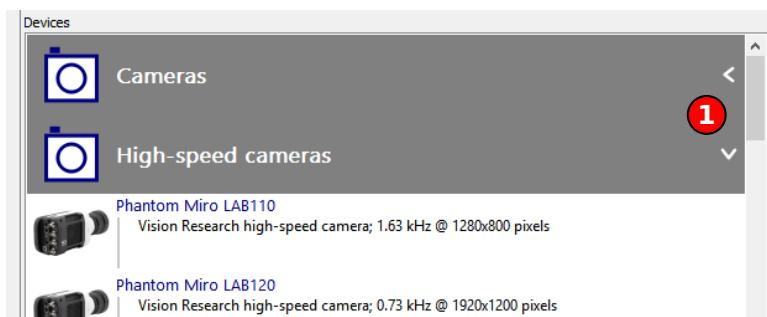

Figure 9.5: List of grouped devices
For a better overview of the device list the devices are grouped by their categories (cf. Fig. 9.5). The different groups can be collapsed and expanded by an arrow ① in their caption. Depending on the users action **DaVis** assists the user by opening that device category which is most relevant and closing categories which are irrelevant for an outstanding configuration step.